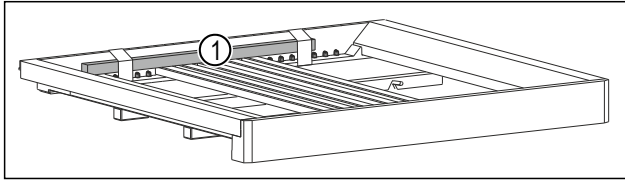

Fig. 7*
- ▶ Remove the wooden stick Fig. 7 [1].*